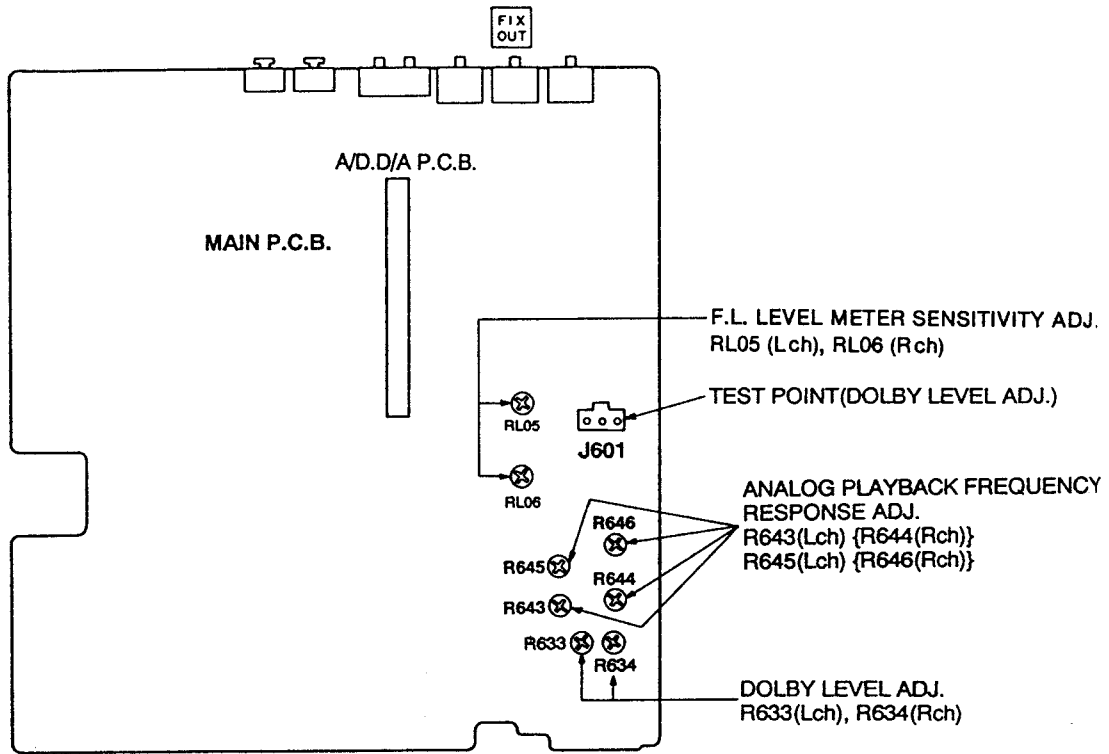

Fig. 25
- (1) While playing back the Dolby level tape (RFKZ0038), adjust the voltage at test point J601 to 338mV using R633 (Lch) and R634 (Rch) (See Fig. 25).
(See Fig. 25)
- (1) Load a **DCC Blank tape (RFKZ0033)** in the unit under test and place it in **REC PAUSE** mode.
- (2) Load the **CD Test disc (SZZP1054C)** in the CD player and play the second band (1 kHz, 0dB, L+R signal).
- (3) Adjust potentiometers **RL05 (Lch)** and **RL06 (Rch)** so the DCC unit's FL level meters indicate 0 to –2dB (See Fig. 25).